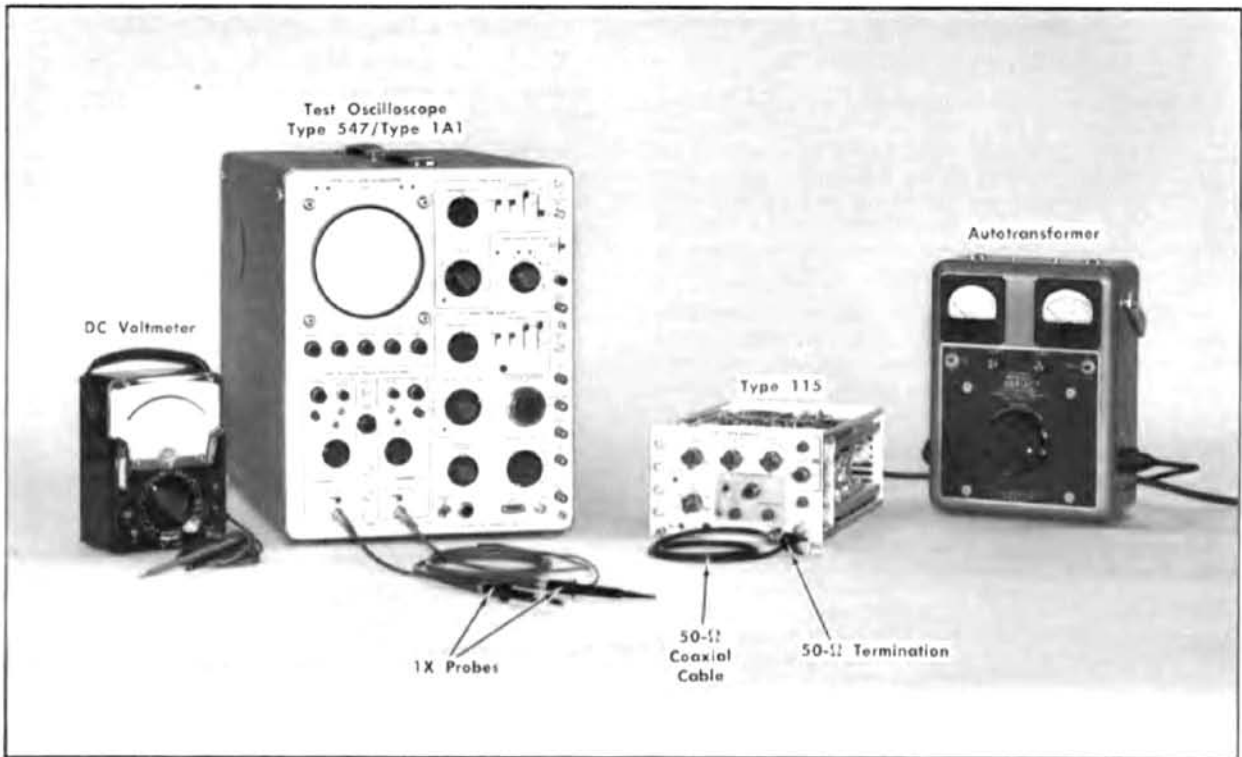

Fig. 5-2. Initial test equipment setup for steps 1 through 3.
12. Set the instrument controls as given following Fig. 5-2 and start the adjustment or calibration procedure with step 1 on page 5-7.
- a. Test equipment setup is shown in Fig. 5-2.